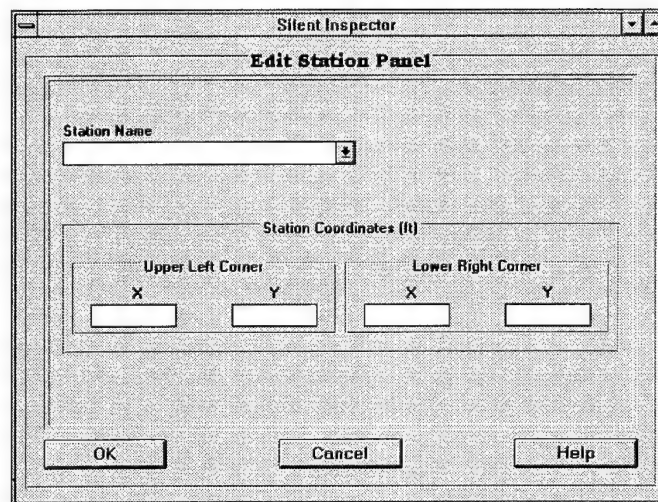

Figure 25. **Edit Station Panel** screen
- Click on **View/Edit** under the **Station** menu, and the **Edit Station Panel** screen (Figure 25) will appear.